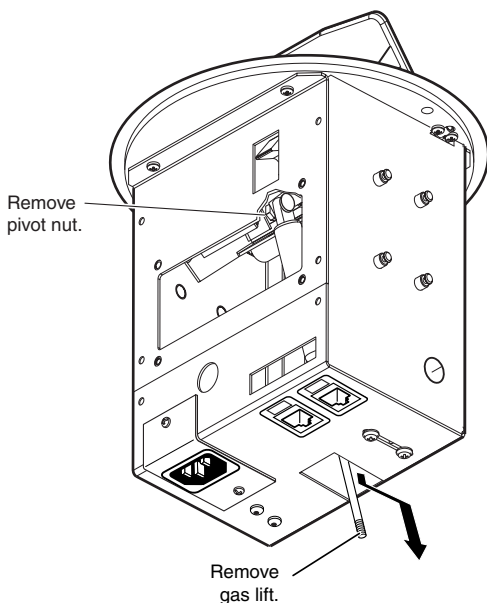

Figure 28. Replacing the Gas Lift, HSA 222 Model
- **HSA 222 models** — Reach through the front access panel (see figure 28 on the next page).